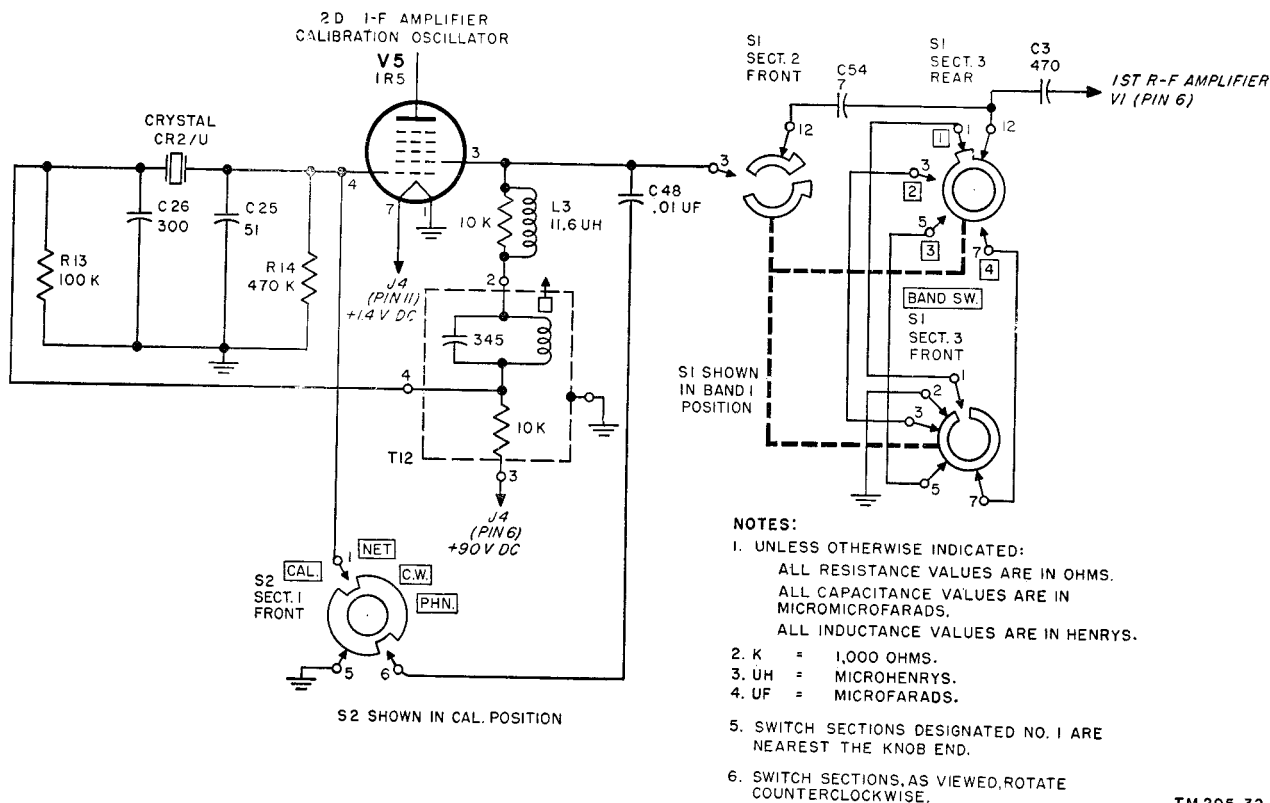

Figure 31. Radio Receiver R-174/URR, calibration oscillator, functional schematic.
63. Calibration Oscillator, Part of V5 (fig. 31)